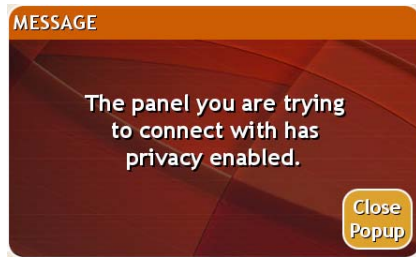

FIG. 93 Privacy Enabled
4. Press the button beneath *Allow This Panel to Monitor* to toggle the option. The button indicates its current state. If you attempt to monitor a panel that has not given permission to be monitored, your panel provides the popup in FIG. 93.